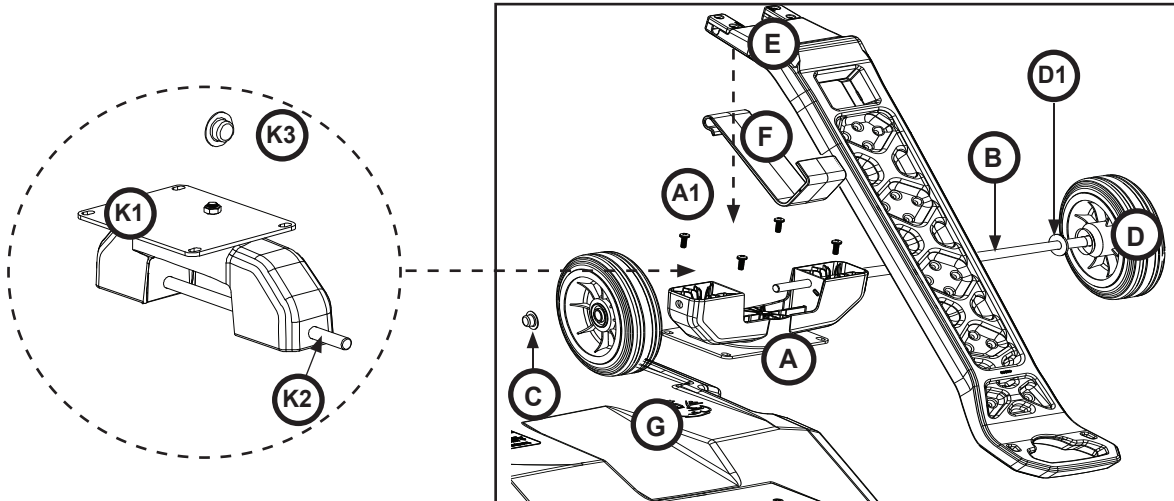

Fig. 1
- NOTICE** Be careful to orient **E** & **F** as shown in Fig. 1.
Refer to Fig. 1.
Consultez la Fig. 1.